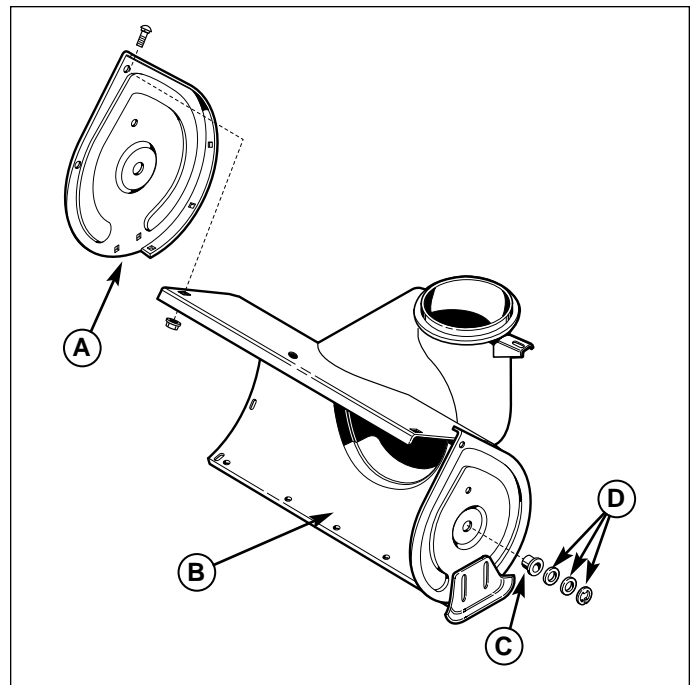

Figure 2. Disassemble Housing
1. Remove the washers and retaining rings (D, Figure 2) from both ends of the auger shaft. Remove the bearings (C).
2. Remove the hardware securing both side covers (A), and remove the side covers.